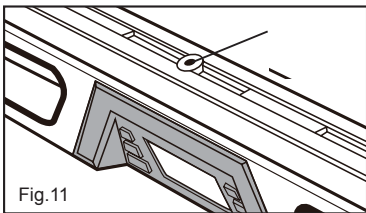

Fig.11
## Operation with tripod (Figs.11,12 and 13)
- Screw the level to the tripod using the 1/4-in. threaded hole located in the center of the working surface of the level (see Fig. 11).